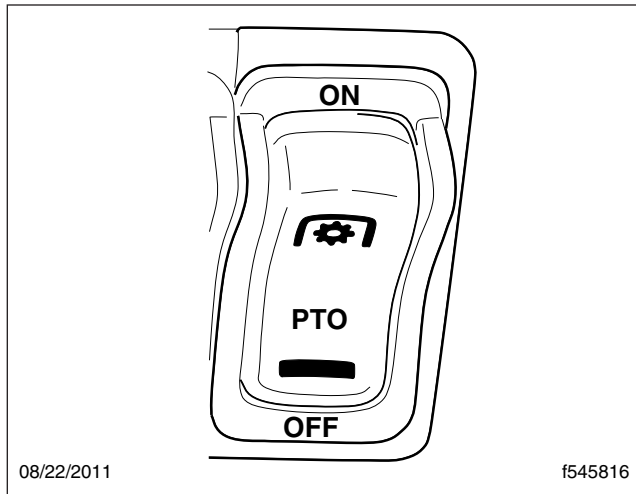

Fig. 4.20, PTO Switch
2. Press the PTO switch. See Fig. 4.20. When the light is steadily illuminated, the PTO is engaged and ready to operate. In stationary mode, the vehicle must remain in neutral with the parking brake set.